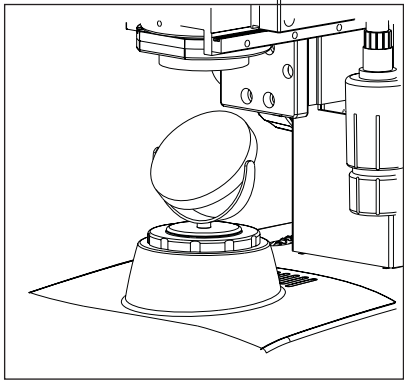

Fig. 5
3. The reflection mirror (fig. 5) should be pointed toward anywhere with stray light. While observing the image through the eyepieces, adjust the orientation of the reflection mirror to capture stray light.